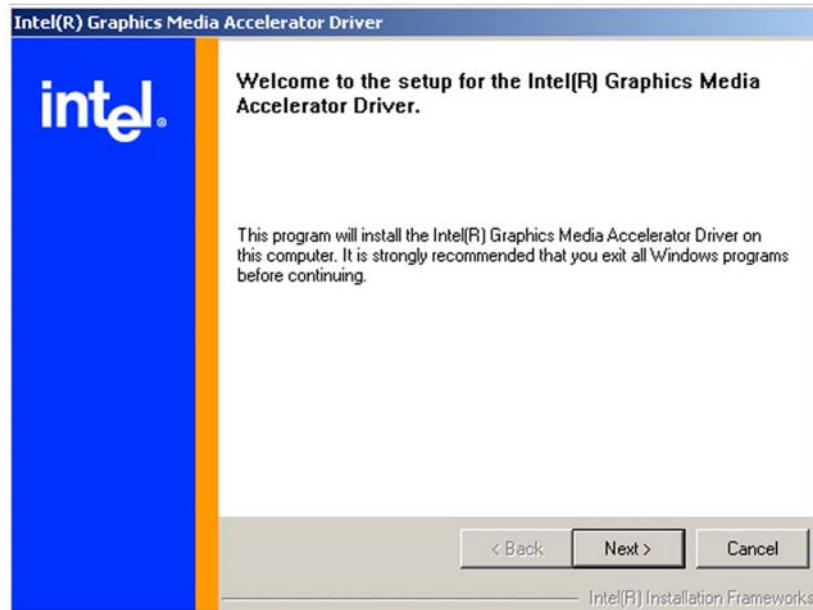

Figure 6-8: VGA Driver Installation Welcome Screen
Step 5: A Welcome screen shown in **Figure 6-8** appears. Click **NEXT** to continue the